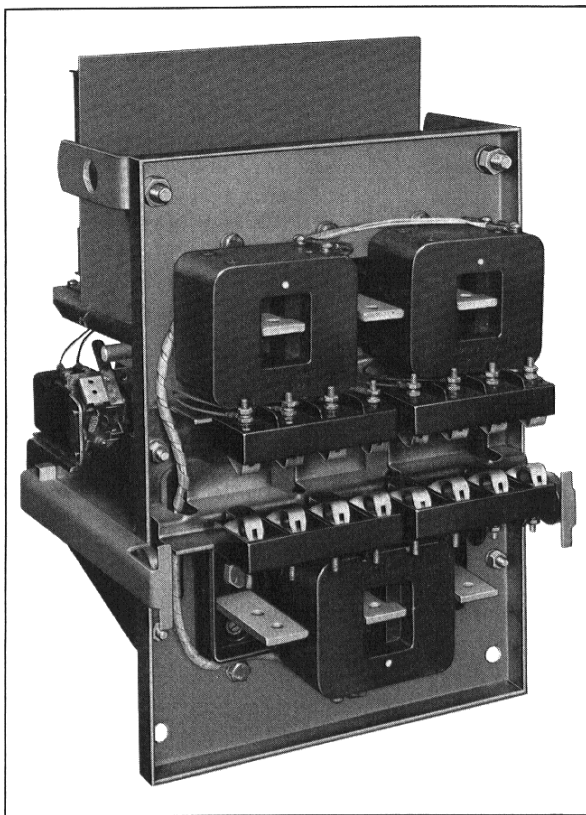

Fig. 19 *Mounting of Sensors and Harness DB-15*
7. Remove the finger clusters from the top two outside studs, and from the middle bottom stud. Place the sensors on the top studs with the terminals of the sensors in the upright position (Fig. 19) and the bottom sensor terminal in the downward position. The lower end of the harness is slit into two groups for attaching to the sensors. The wires to the top sensors are brought upward along the frame while the portion to the lower sensor is brought down between the phases. Attach the wire ends to the sensors making positive that the polarities are correct.
NOTE: TO MAINTAIN PROPER POLARITY BECAUSE OF STAGGERED SENSOR MOUNTING ARRANGEMENT, (SEE FIG. 19) WIRE CONNECTIONS TO SENSOR IN PHASE TWO MUST BE REVERSED FROM THAT SHOWN IN FIG. 7.